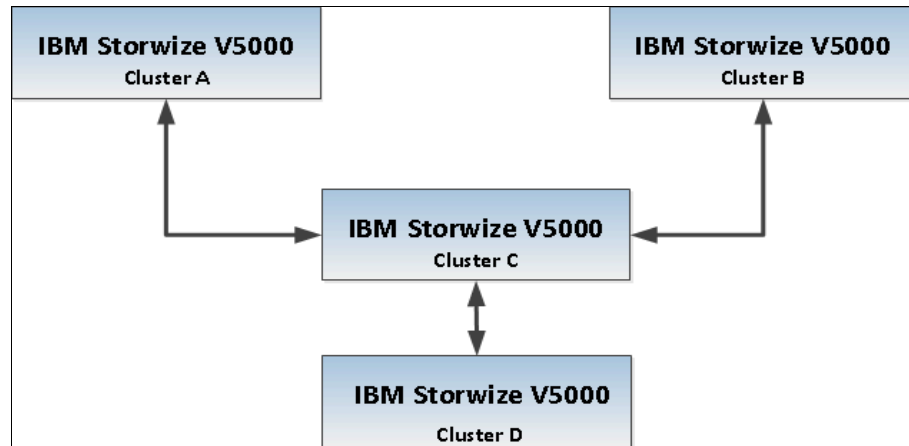

Figure 10-76 Star topology for IBM Storwize V5000
- Star topology, as shown in Figure 10-76.